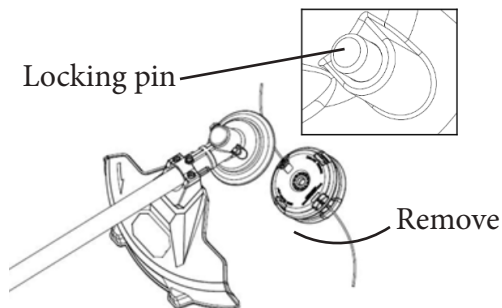

Fig.22
- c) Press the locking pin and turn the cartridge counterclockwise to remove it. (Fig.22)
- d) Press the locking pin and turn the trimmer head clockwise to assemble it. (Fig.22)